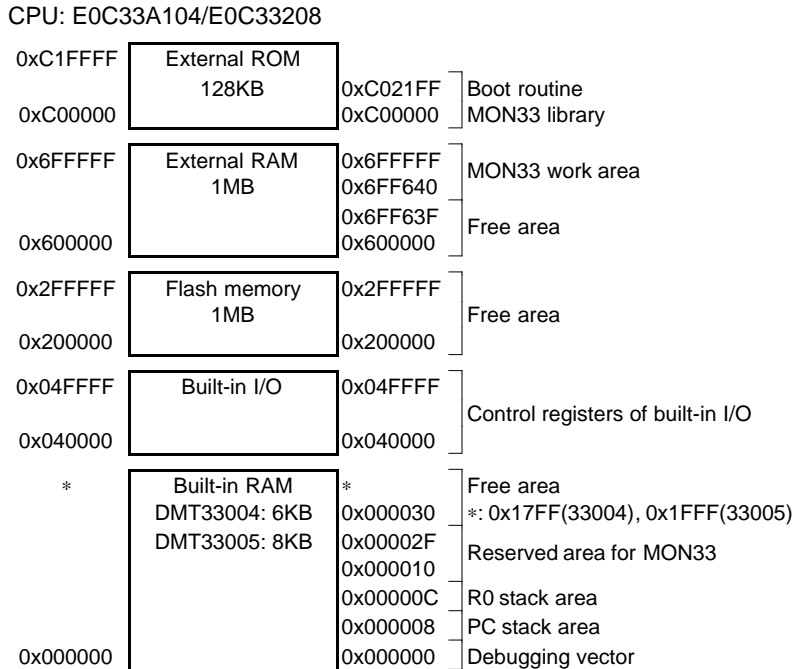

Figure A.5.1 DMT33004/33005 memory map
Figure A.5.1 shows the DMT33004/33005 memory map and the area used by the debug monitor.
- When debugging the user program on the DMT33004/33005 board, create the program so that it can be loaded and executed in the free area of the RAM or the Flash memory in the same way as the sample file. (See Figure A.5.1)